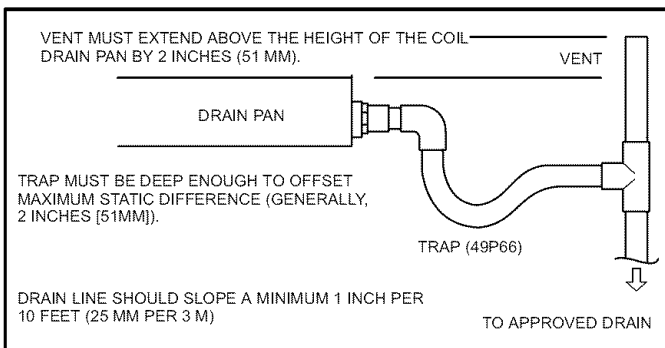

Figure 11. Typical Drain Connection
7. Install a 3" trap in the primary drain lines as close to the unit as practical (see figure 11). Make sure the top of the trap is below the connection to the drain pan to allow complete drainage of the pan.
NOTE - Horizontal runs must have an anti-siphon air vent (standpipe) installed ahead of the horizontal run (See figure 11). An extremely long horizontal run may require an oversized drain line to eliminate air trapping.